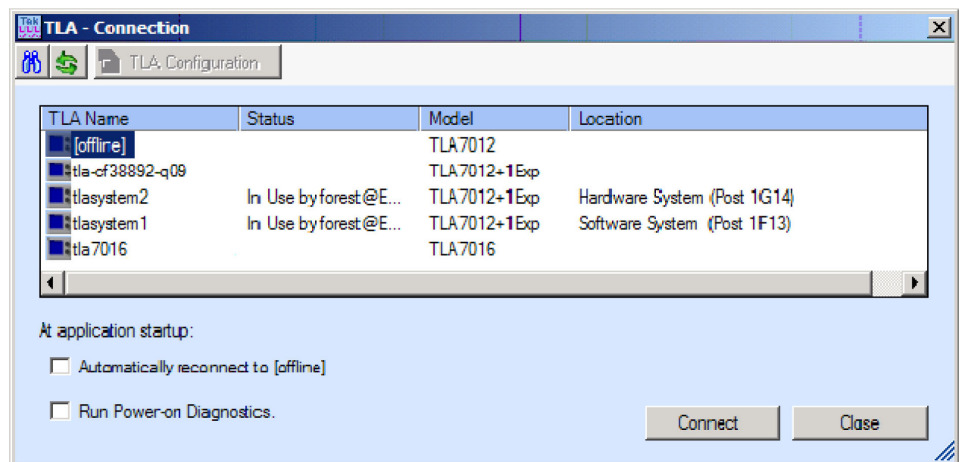

Figure 28: TLA Connection dialog box
1. Start the TLA application by double-clicking the TLA Application icon on the PC. The TLA Connection dialog box appears. (See Figure 28.)